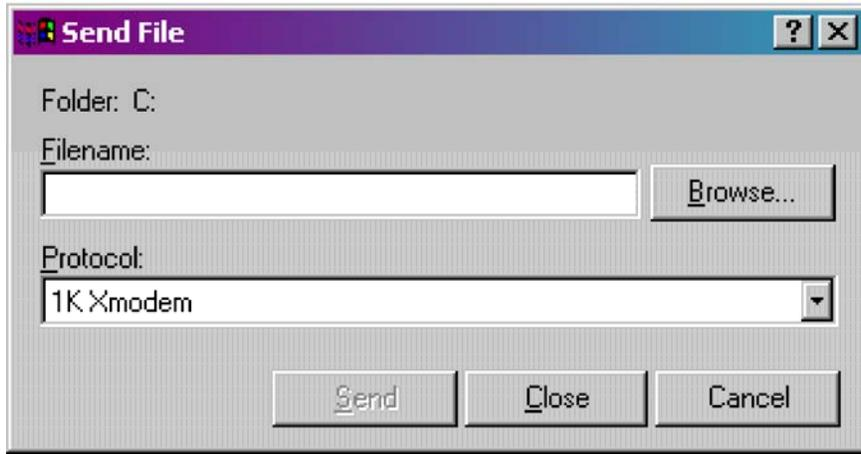

Figure 20 - HyperTerminal Flash Download (Send File Dialog Box)
5. When the FLASH is ready for download the letter C will be displayed on the screen. In the HyperTerminal command bar click on Transfer and then Send File (see Figure 19). In the Send File Dialog Box (see Figure 20), select "1KXmodem" for the protocol, enter the filename of the appropriate .bin file in the format "C_3xxxx.bin" (where xxxx varies from release to release). Click on the Send button to start the download (see Figure 20). When the HyperTerminal Recovery Mode Menu of Figure 18 appears, the download has completed.